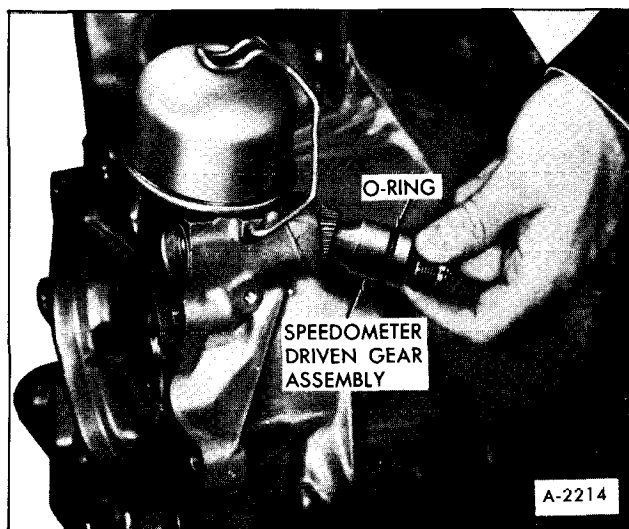

Figure 97—Installing Speedometer Driven Gear
3. Install speedometer housing and seal assembly and white nylon driven gear into transmission case, Figure 97.